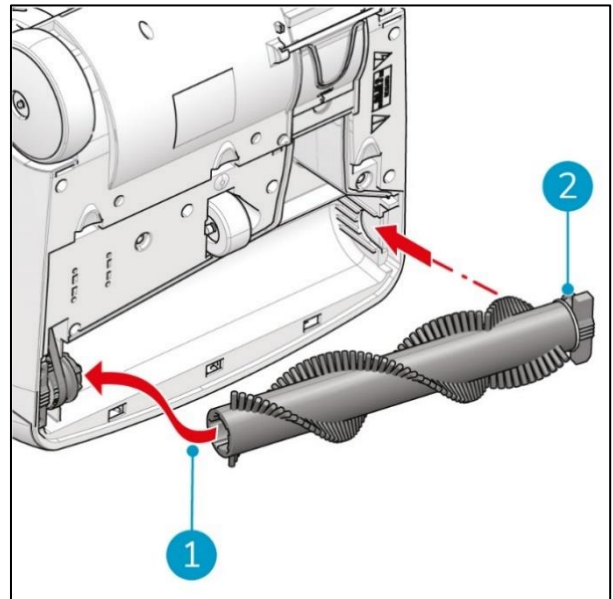

Figure 27
6. Place the new rotating brush, first at the side of the drive belt (Figure 27, pos 1). Make sure that the grooves in the brush are aligned with the cams of the drive wheel.
7. Slide in the other side (Figure 27, pos 2). When it clicks it is locked.